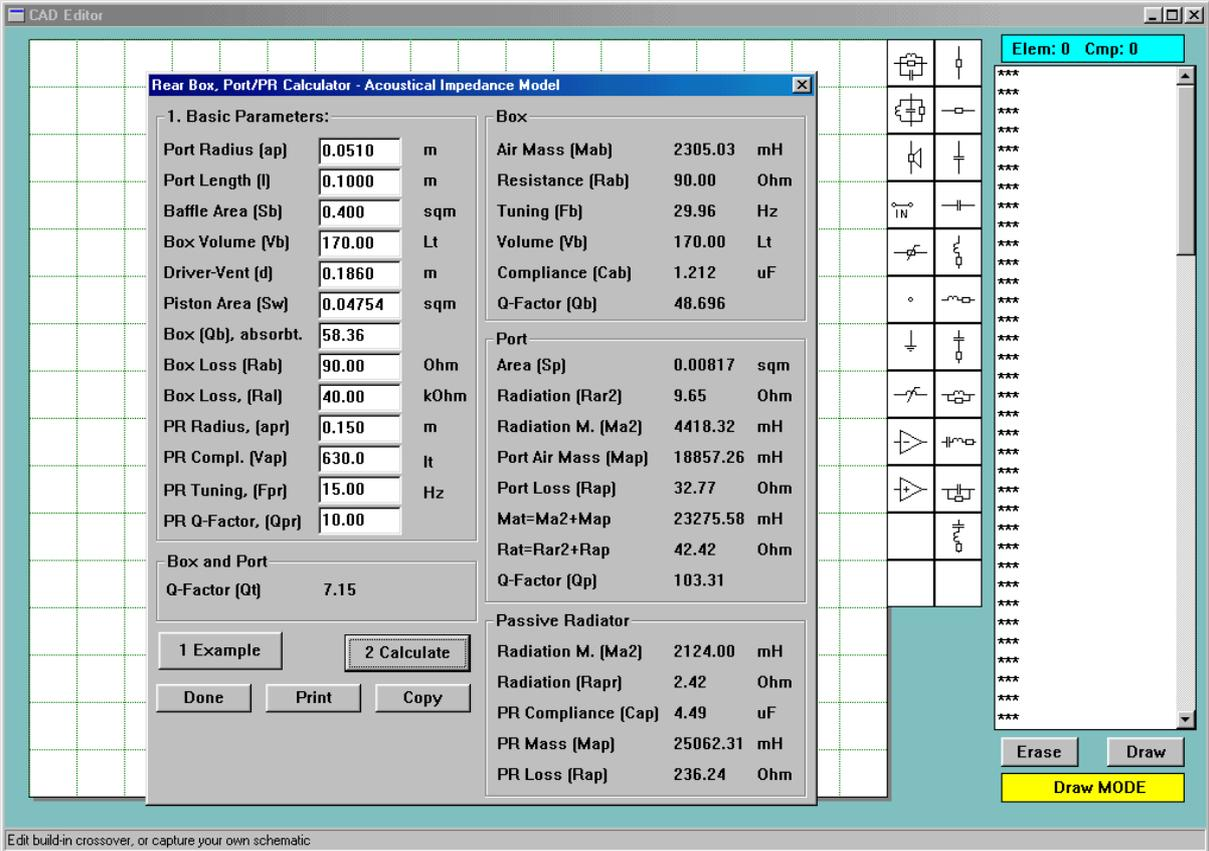
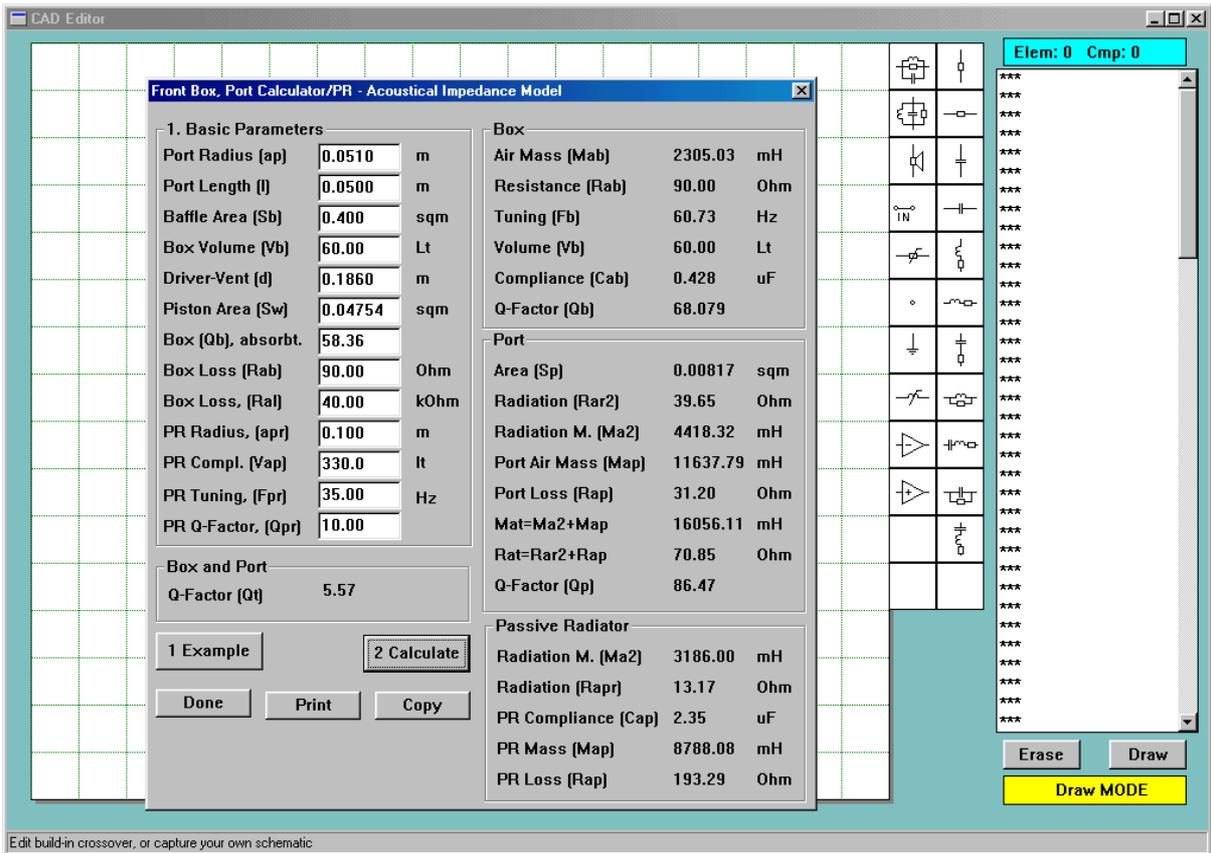

Fig 2.2 Rear Box, Port/PR Calculator
Fig 2.3 Front Box, Port/PR Calculator
2. Rear & Front Box, Port Calculator (Fig 2.2 & Fig 2.3).